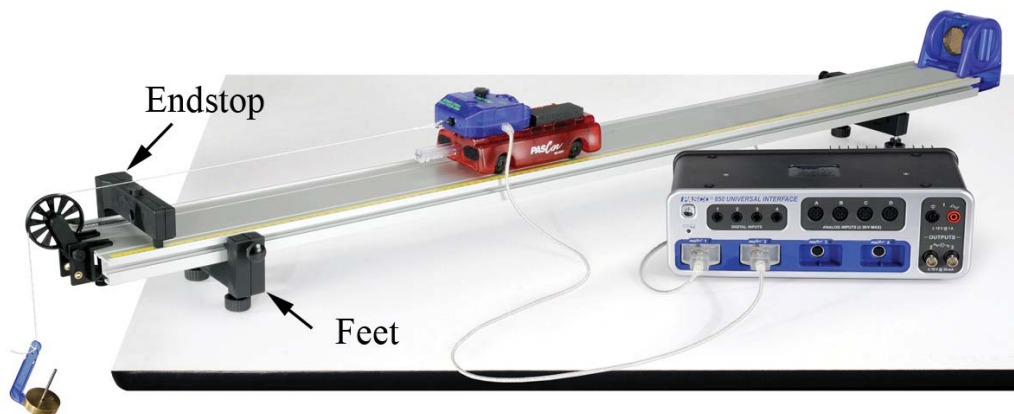

Figure 1. Measuring Force and Acceleration
1. Set up the track as shown in Figure 1, including feet and endstop.